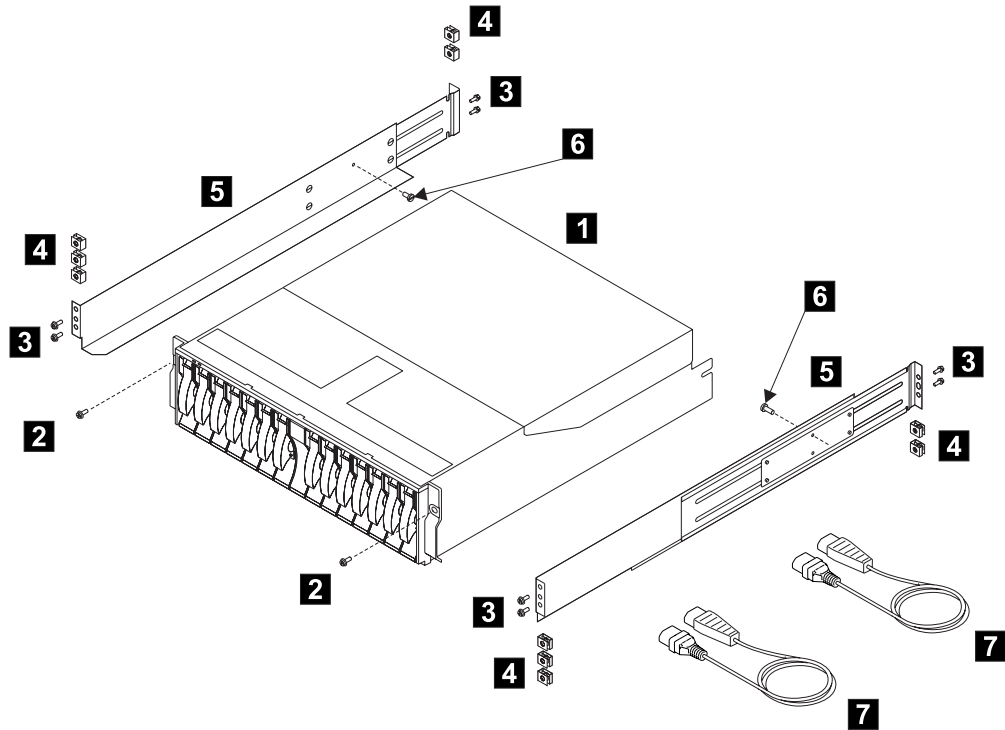

Figure 1. Items for the 2104 Model DU3
1. Refer to Figure 1.
1. Find the two support rails (**5** in Figure 1 on page 4) that are supplied with the 2104.
Note: These are the screws identified as **6** in Figure 1 on page 4.